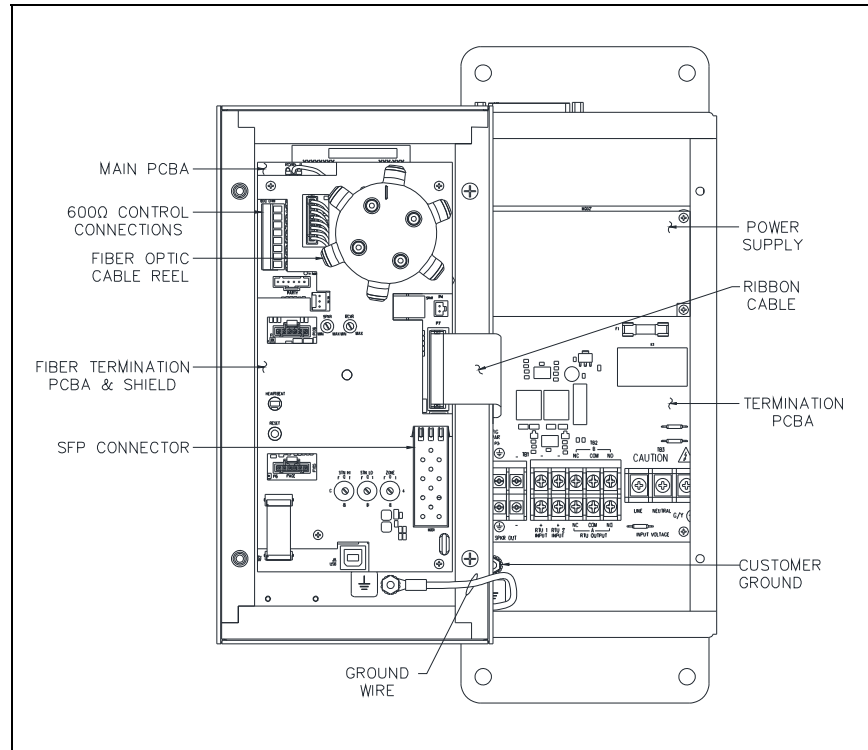

Figure 3. SP2 Fiber Handset/Speaker Amplifier Station—Interior View
2. Secure it to the ground terminal, located in the lower left corner, at the back of the rear enclosure (see Figure 3).